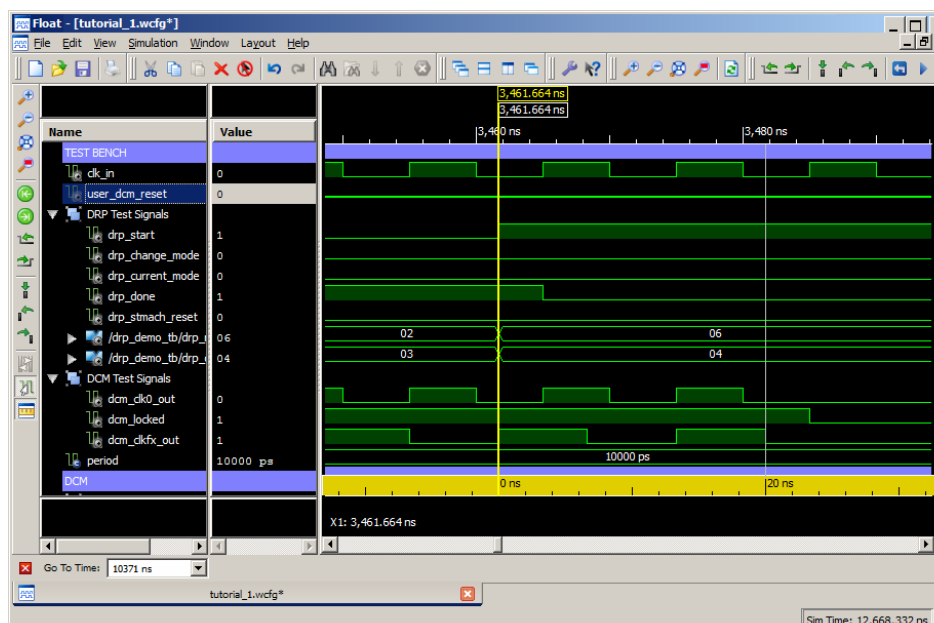

Figure 3-29: Viewing `dcm_clk0_out` and `dcm_clkfx_out`
3. Repeat step 2 until you can clearly see the rising and falling edges of DCM test signals `dcm_clk0_out` and `dcm_clkfx_out` (see Figure 3-29).